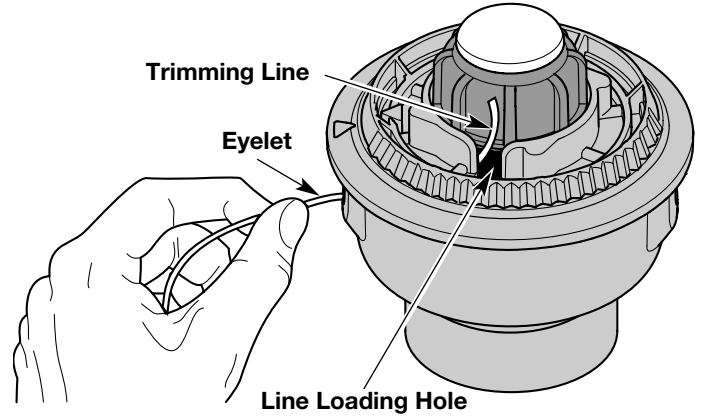
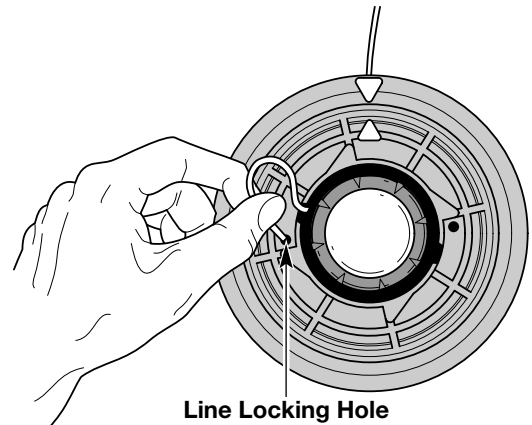

Fig. 18
Fig. 19
3. Pull old line out of the line loading and line locking holes (Figs. 18 and 19).
4. Insert a piece of trimming line into one of the two eyelets in the outer spool. Push it up through the line loading hole in the inner reel (Fig. 18). Do not bend the line when inserting it into the eyelet.
5. Insert the line into the locking hole (Fig. 18). Do not push the line more than 1/2 inch (12.7 mm) into the line locking hole. When inserted correctly the line will form a small loop (Fig. 19).